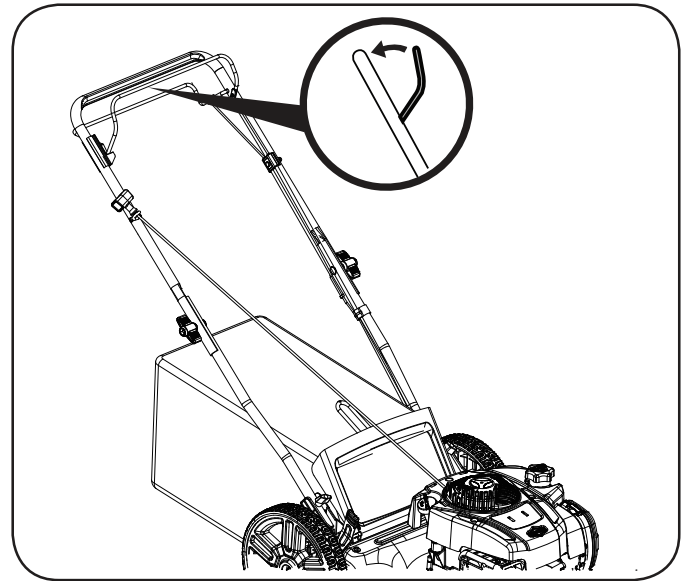

Figure 5
1. Hold the blade control handle against the upper handle (Figure 5).